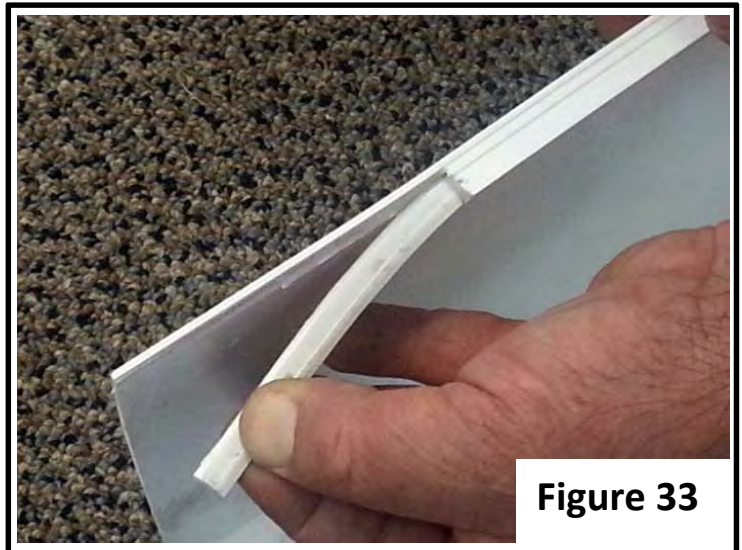

Figure 33
***Figure 33 shows inside snap leg being removed.**